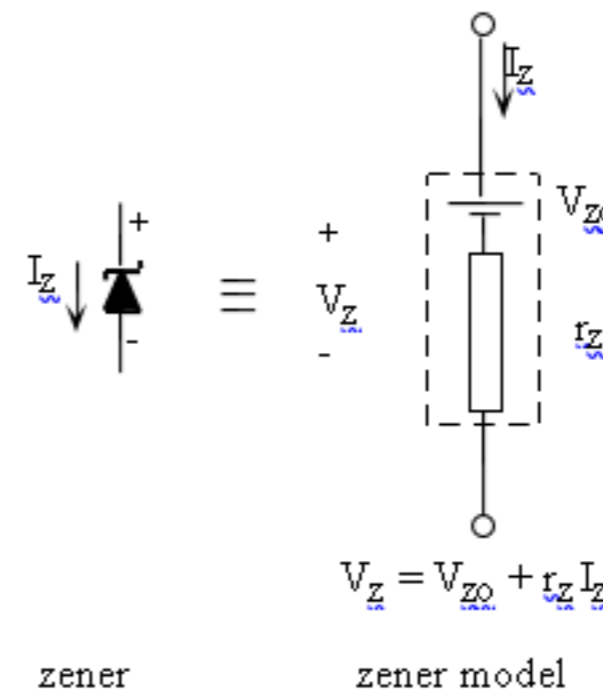

Fig. 4b: Zener diode model
- The I-V relationship may be modelled by the combination of a voltage source V_{Z0} and resistance r_z shown in Fig. 4b.
- b. By modelling the zener diode as shown in Fig. 4b, calculate (using your measured values for r_z) what you would expect the line stability ratio to be. Compare your result with this value.